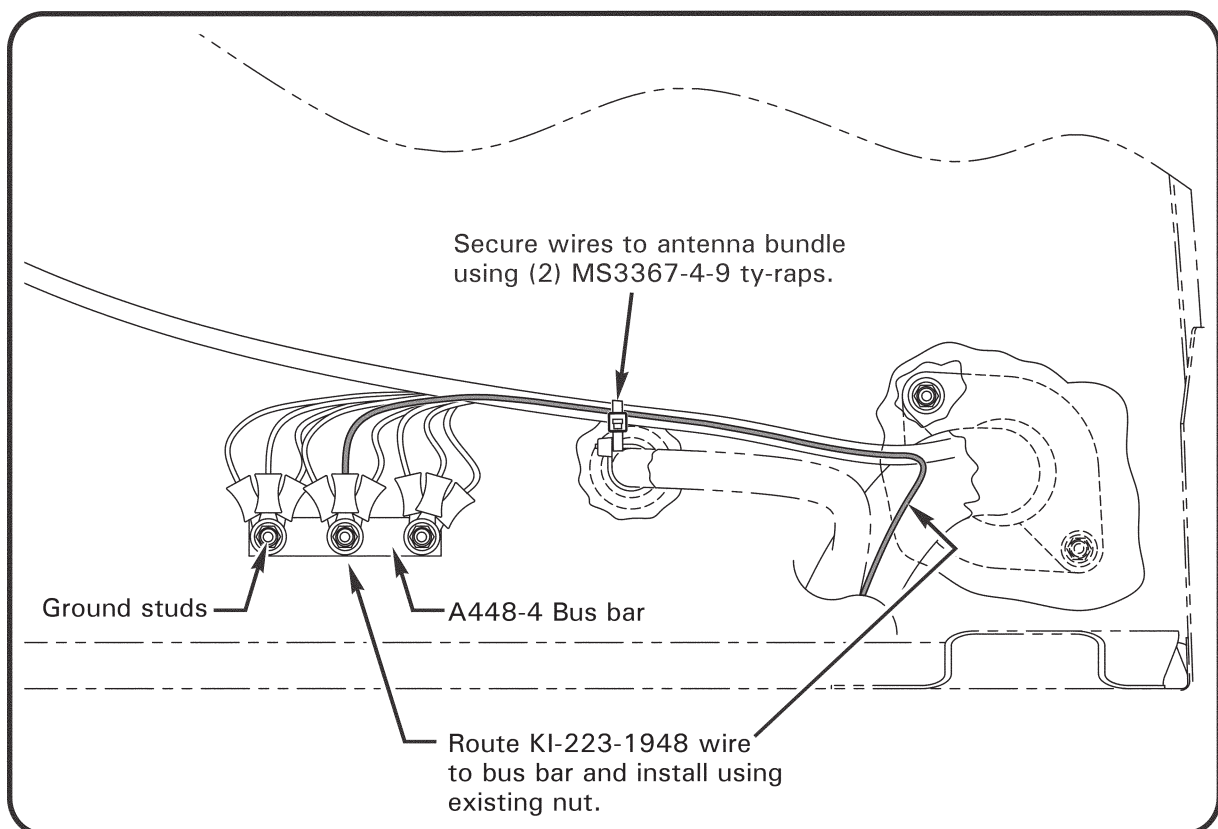

FIGURE 2 Bus bar ground location
4. Refer to Figure 2. Locate ground connections inside inspection door, right side of main rotor gearbox compartment. Remove ty-raps securing ground and F059 harness wires.